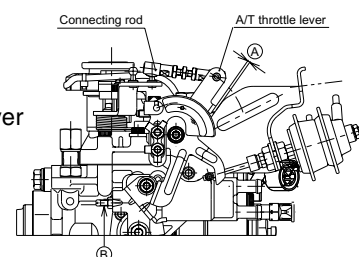

fig. 1
3. A/T throttle lever setting (fig. 1)